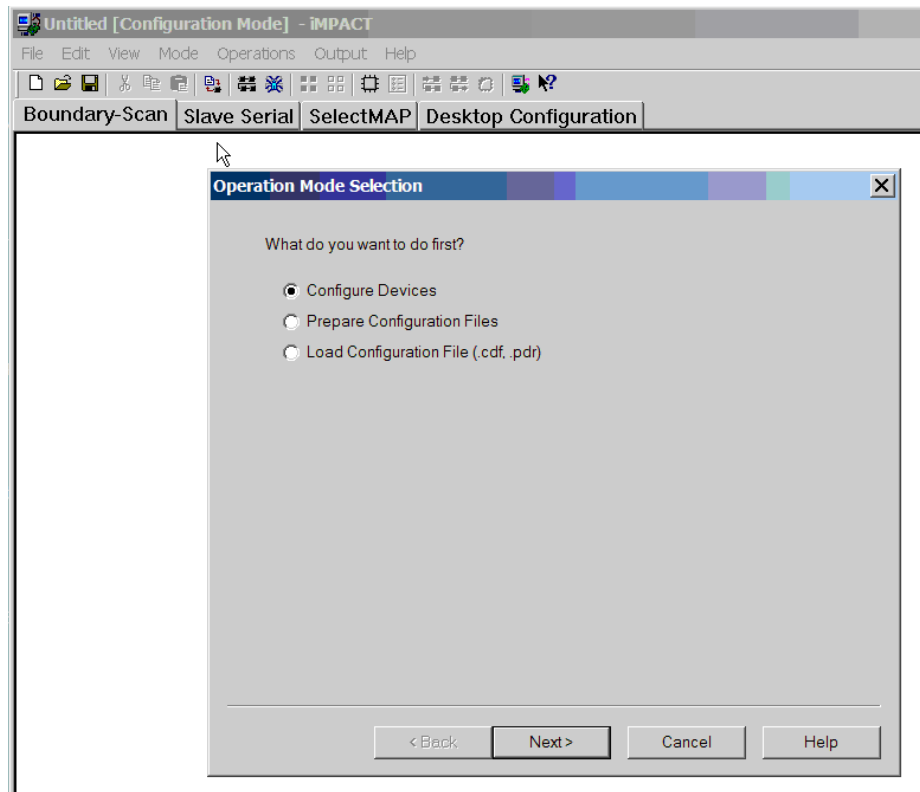

Figure C-1: **Operation Mode Selection: Configure Devices**
3. Start up iMPACT and select Configure Devices as shown in Figure C-1.